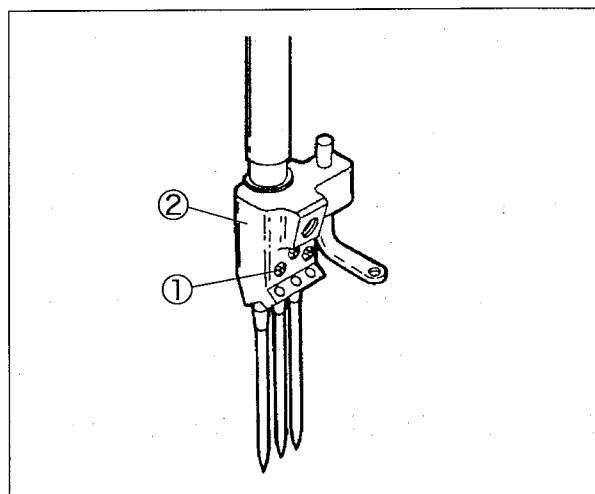
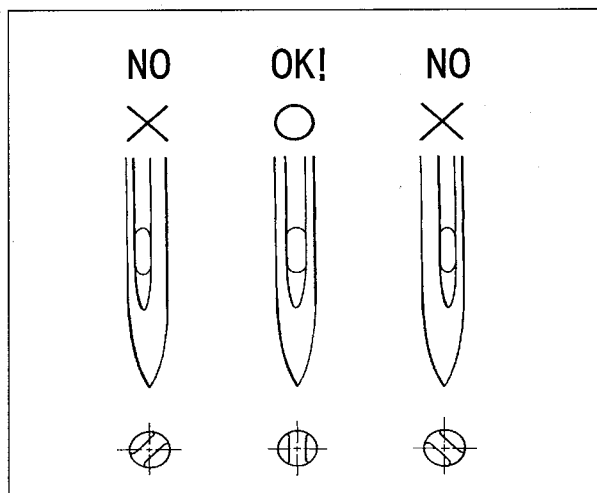

Fig. 5-1
Fig. 5-2
- (1) Loosen the screws ① with a screwdriver. (Fig. 5-1)
- (2) Remove the old needle with a pair of tweezers.
- (3) Insert a new needle into the needle clamp ② as far as it goes with facing its scarf to the right back. (Fig. 5-2, 5-3)
- (4) Tighten the screws ① with the screwdriver.